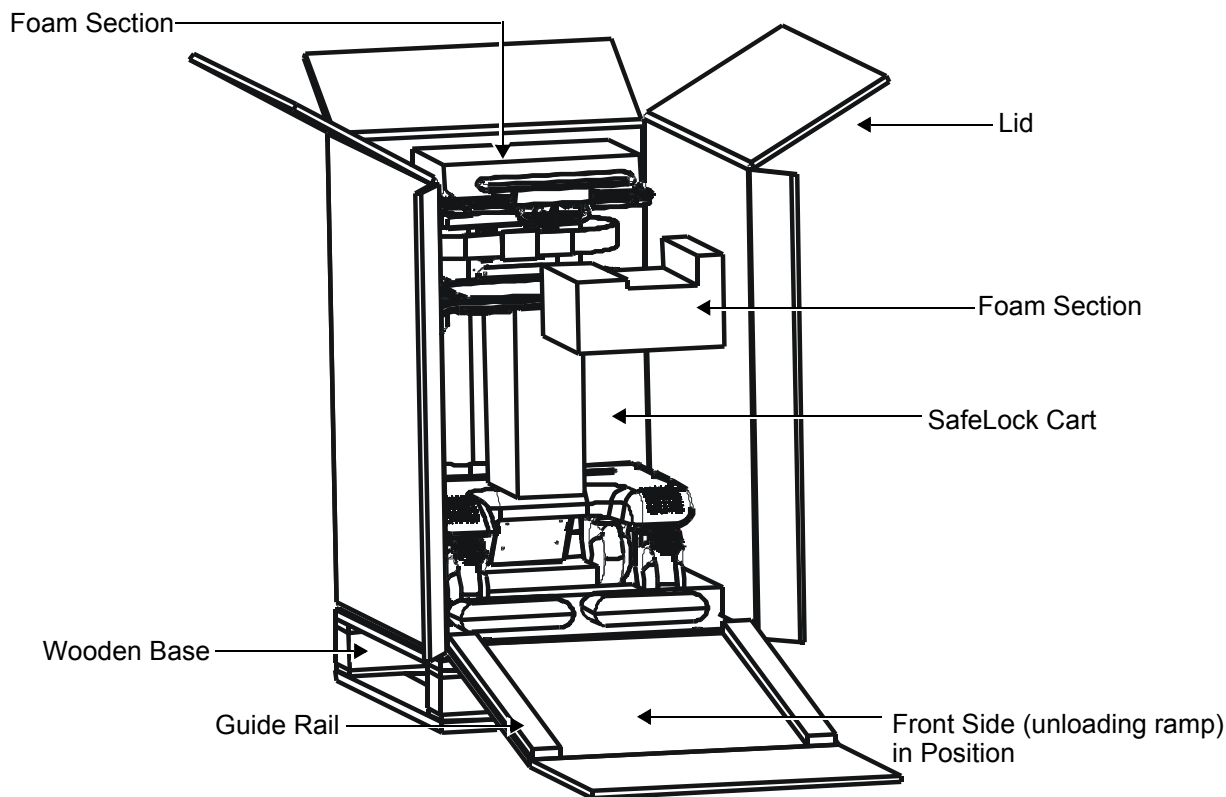

Figure 3-9 Shipping Carton with Top Open and Ramp in Position
- 3.) Carefully cut the adhesive tape used to close the front side of the shipping carton, remove the five staples from each side, then drop the side *downwards* until it is resting on the floor, as shown in Figure 3-9 below.